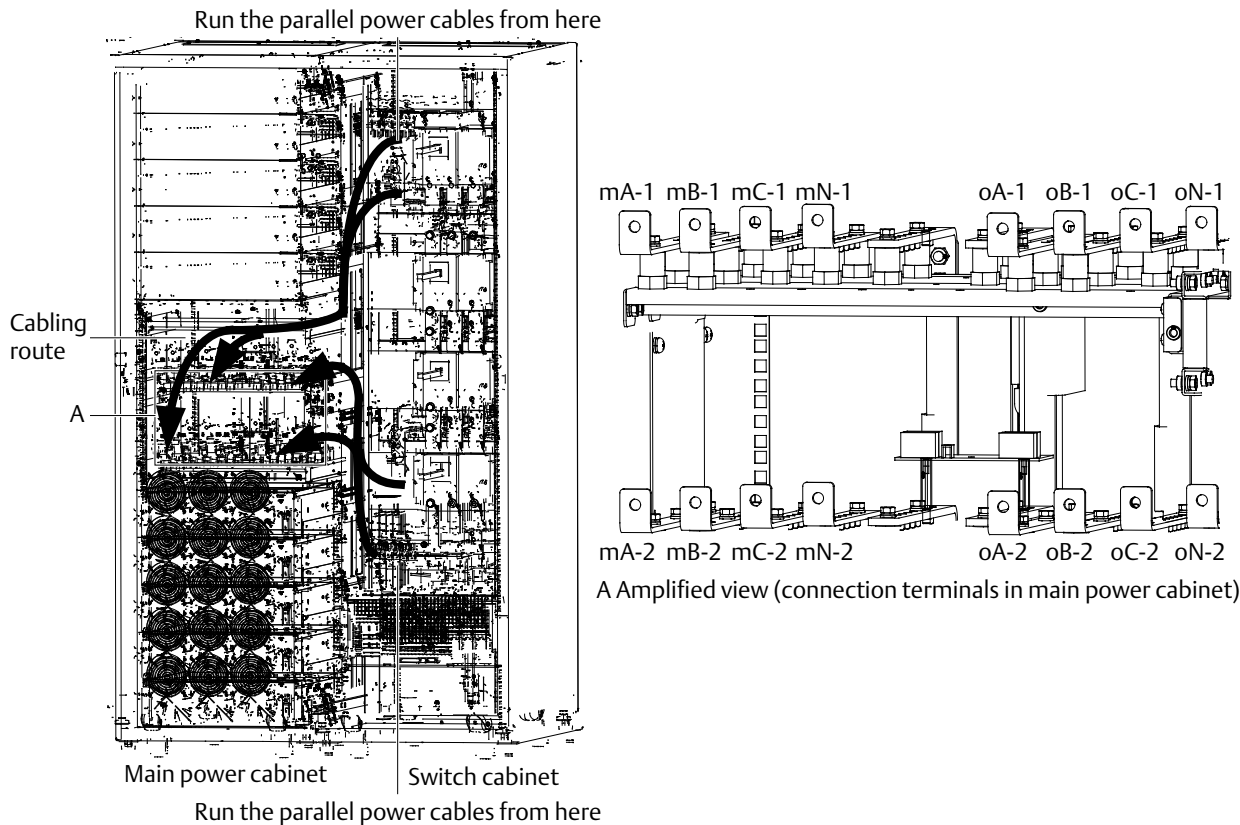
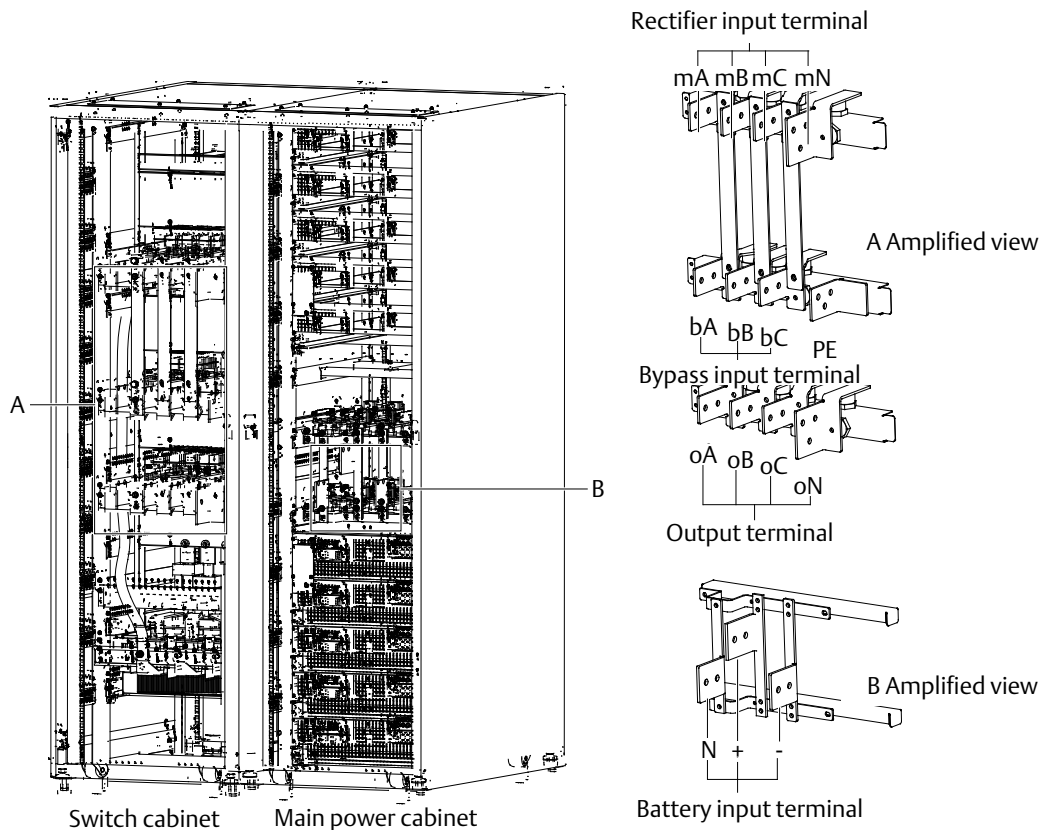

Figure 3-1 Connecting parallel power cables
Figure 3-2 Connection terminals of power cables (back view)
3. The connection terminals are shown in Figure 3-1 and Figure 3-2.
The rectifier input, bypass, output and battery power cables are connected to the corresponding busbars situated of the UPS, as shown in Figure 3-1 to Figure 3-2.
The protective earth cable is reliably connected to the PE input terminal (see Figure 3-2) via the fixing bolt. All the cabinets and cable troughs shall be grounded according to the local regulations. The grounding wires shall be tied up reliably to prevent the loosening of the grounding wire tightening screws when the grounding wires are pulled.
2. The parallel power cables have been connected in factory to the copper bars in the upper part and lower part of the switch cabinet, as shown in Figure 3-1. Run the parallel power cables into the main power cabinet by the cabling route shown in Figure 3-1 to the corresponding connection terminals.
2. Open the back doors of the main power cabinet and switch cabinet to reveal the connection terminals of the power cables, including the rectifier input terminals, bypass input terminals, output terminals, battery input terminals and PE terminals, as shown in Figure 3-2.